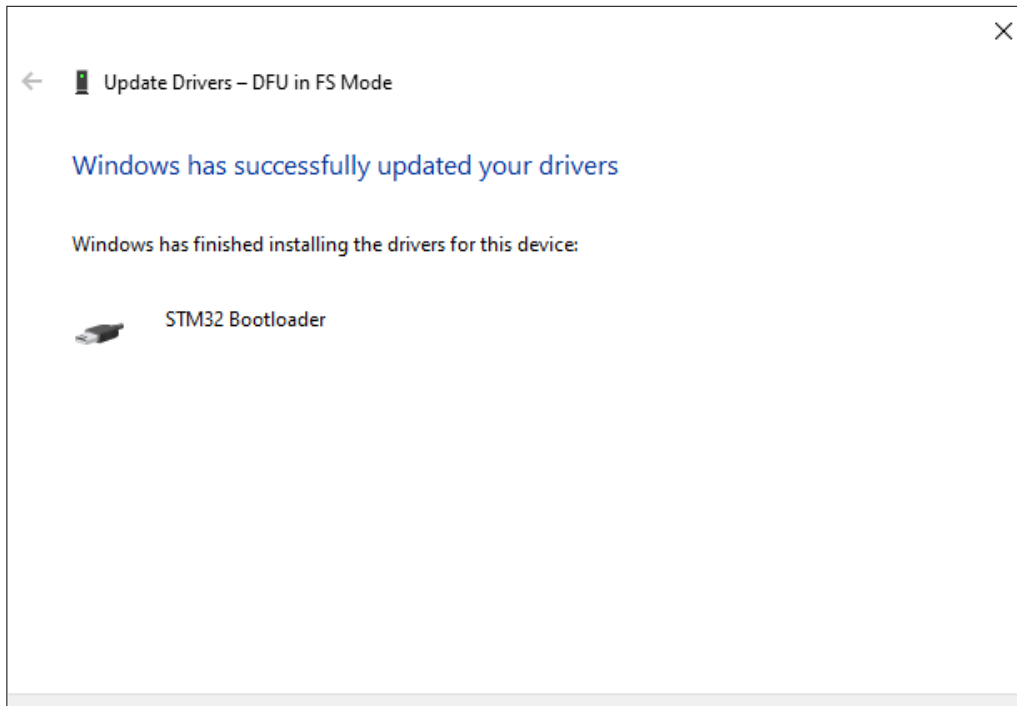

Figure 15: The STM32 Bootloader driver has been installed successfully.
- 5 The driver should now be installed successfully (see Fig. 15).